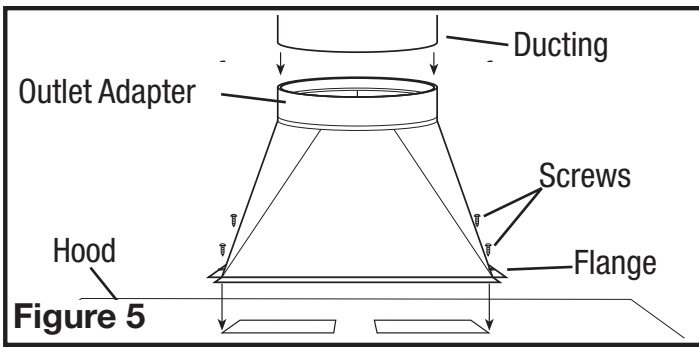

Figure 5
- Install the proper sized outlet adapter to the hood by matching up the four holes on the flange of the adapter to the four corresponding holes on the hood and secure in place with the provided screws. Ensure an airtight seal around the adapter by securing all connections with ducting tape (Figure 5).
3. When there is access to the top of the unit, connect the ducting to the duct collar and secure in place using tape to seal all joints (Figure 5).